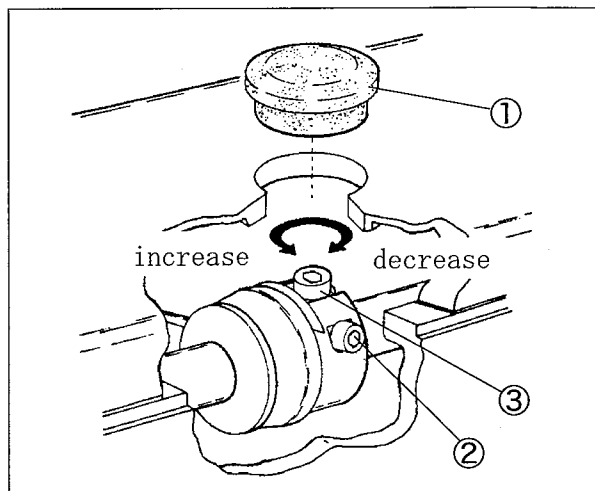

Fig. 6-33
- (3) Rotate the handwheel until the adjusting screw ③ comes to the top position. (Fig. 6-33)
- (4) Turn the adjusting screw ③ to adjust the feeding amount.
- (5) Tighten the screw ② with a tightening torque of 2.5 N·m securely.